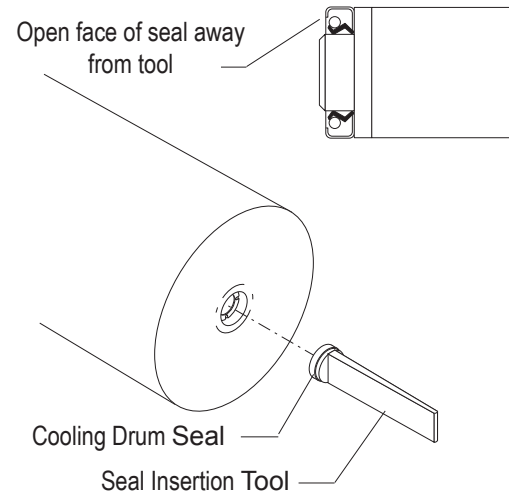

Figure 2
- Place seal on insertion tool as shown in Figure 2. Make sure open face of seal is toward cooling drum.